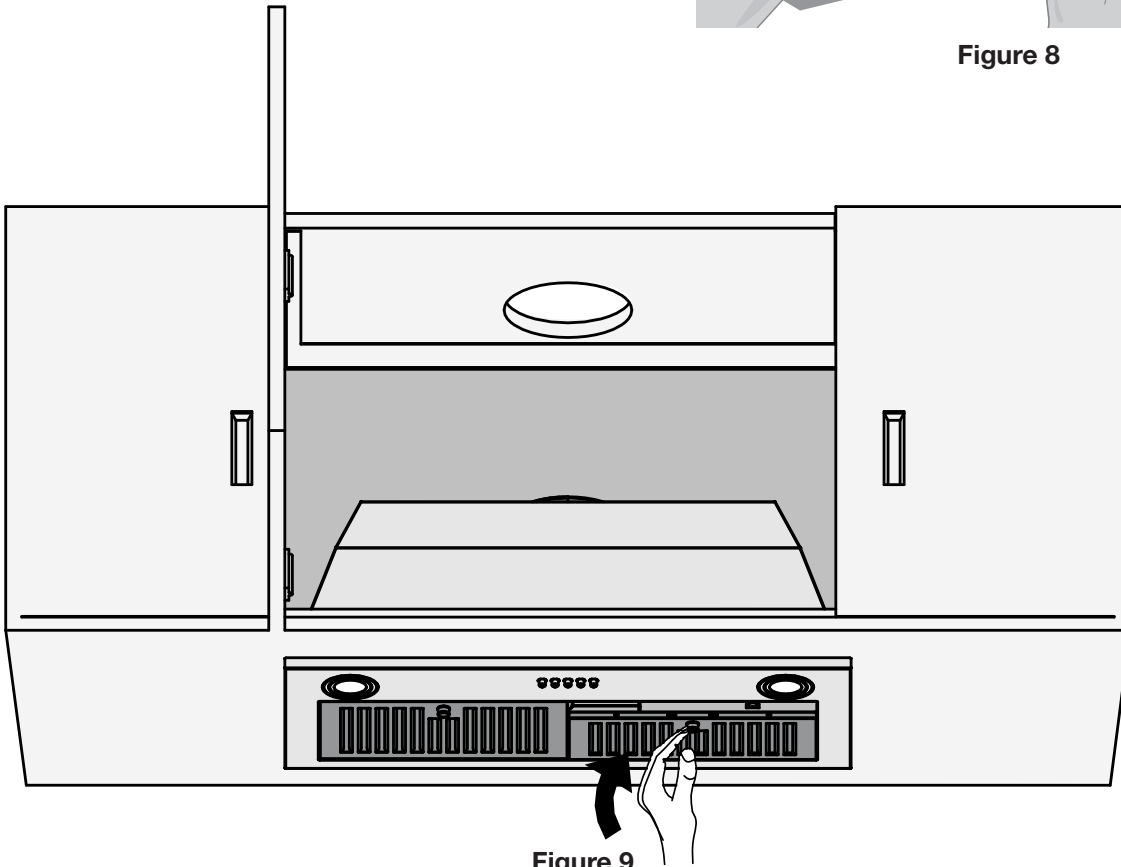

Figure 9
- Raise the other end towards the inside of range hood, rotate and insert in the bottom end of opening (Figure 9).